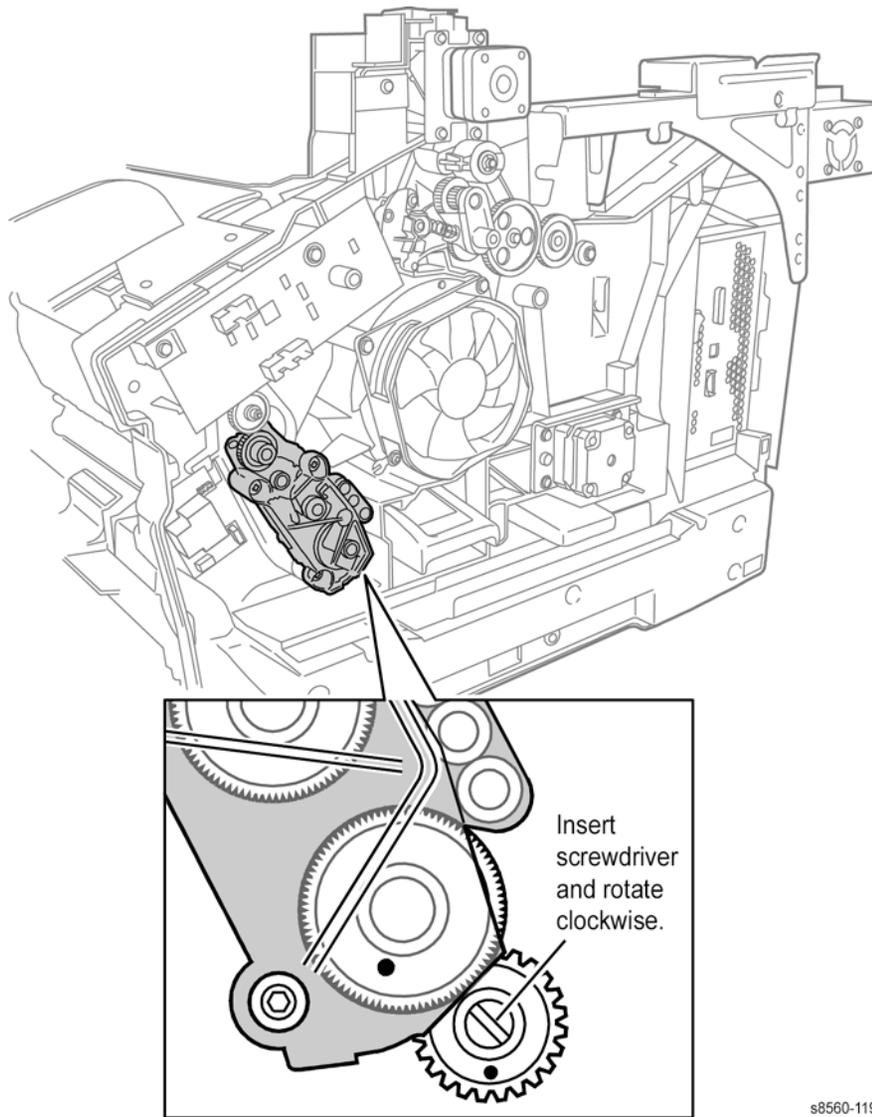

Figure 2 Rotating the Drum Maintenance Camshaft
2. With the Printhead centered over the Drum to clear the restraints, rotate the Drum Maintenance Camshaft 360° clockwise using a flat blade screwdriver as shown in Figure 2. If the Head Tilt Gear is engaged, manually assist the movement of the Printhead. There is an audible click when the Head Tilt Gear disengages.